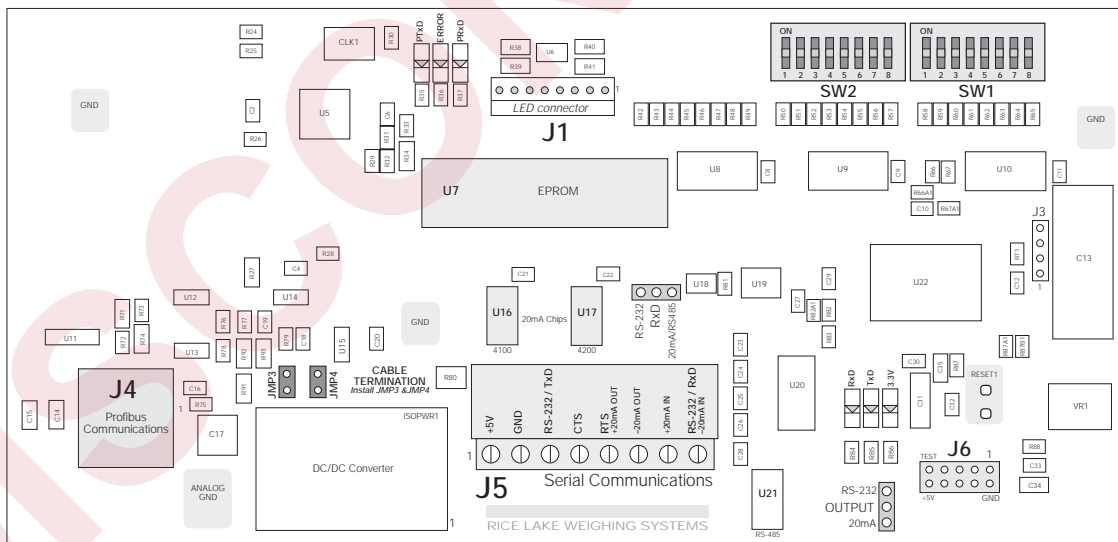
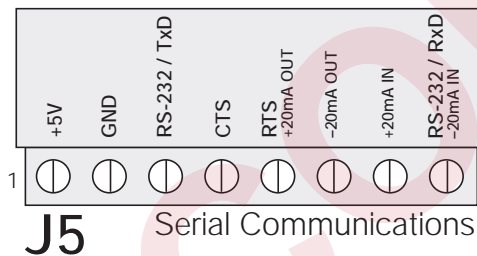

Figure 2-2. Profibus Indicator Interface Logic Board Layout
Figure 2-4. *Serial Communications Connections*
Figure 2-2 shows the layout of the Profibus Indicator Interface logic board. The following sections describe DIP switch configuration and cable connections to the PLC and indicator.
Two jumpers, labeled *RxD* and *OUTPUT*, determine whether the Profibus Indicator Interface uses RS-232 or 20 mA current loop for serial communications with the indicator. Leave the jumpers in the position shown in Figure 2-4 for RS-232 communications; move both jumpers to the *20mA* position if using the 20 mA current loop option. See Figure 2-2 on page 2 for board location of the jumpers.
Serial communications connections to the indicator are made at connector J5 on the Profibus board (see Figure 2-2 on page 2 for board location of J5). Figure 2-4 shows the J5 connector layout for the Profibus Indicator Interface. Table 2-1 shows the serial communications connections between the Profibus Indicator Interface and the IQ plus 800/810 indicators; Table 2-2 shows the serial communications connections between the Profibus Indicator Interface and the IQ plus 310A indicators.
Connections to the Profibus network are made at connector J4 on the Profibus board (see Figure 2-2 on page 2 for board location of J4). Table 2-3 shows the connections from J4 connector on the Profibus board to the DB-9 Profibus connector.
If the Profibus Indicator Interface is the last device on the network bus, install jumpers *JMP3* and *JMP4* on the Profibus board (see Figure 2-2 on page 2 for jumper locations).
3. Install 20 mA chips in sockets U16 and U17 on Profibus board (see Figure 2-2 on page 2).